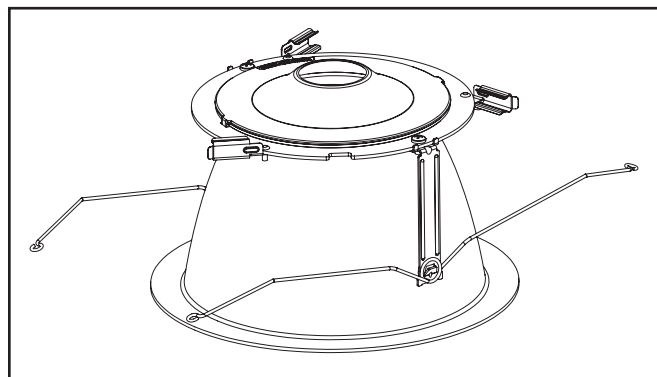

Figure 5.
1. Remove lower trim from protective packaging. Rotate side clips (3) outwards (Figure 5). Remove LED Engine from protective packaging.